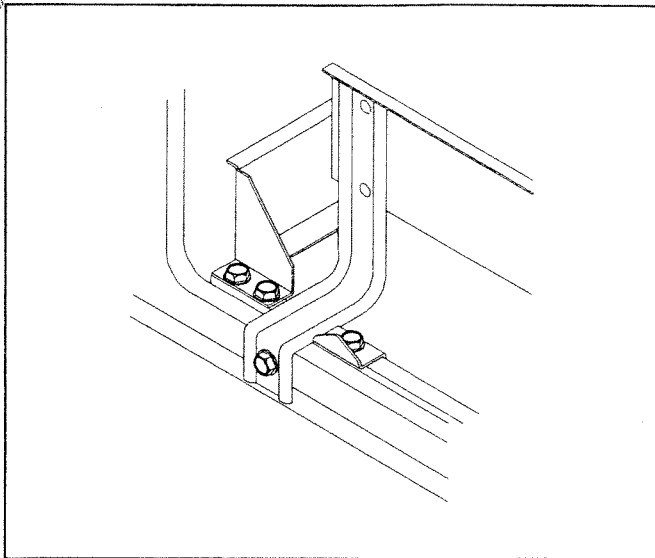

Figure 33. Burner Side Shield.
21. Install front burner side shield. Use screws saved earlier. Properly place side shield support leg. See Figure 33.